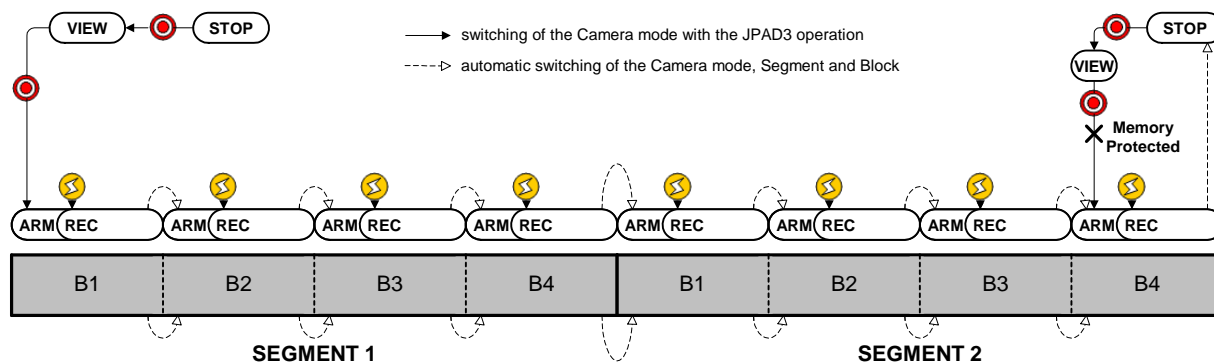

Figure3-40 Multi Trigger Recording (MULTIS(A), Number of Segments: 2, Number of Blocks: 4)
Figure 3-40 shows how to switch modes with the J-PAD3 during MULTIS(A) recording (top of the figure) and saving in the memory (bottom of the figure). MULTIS(A) is multi trigger recording in the AUTO mode.